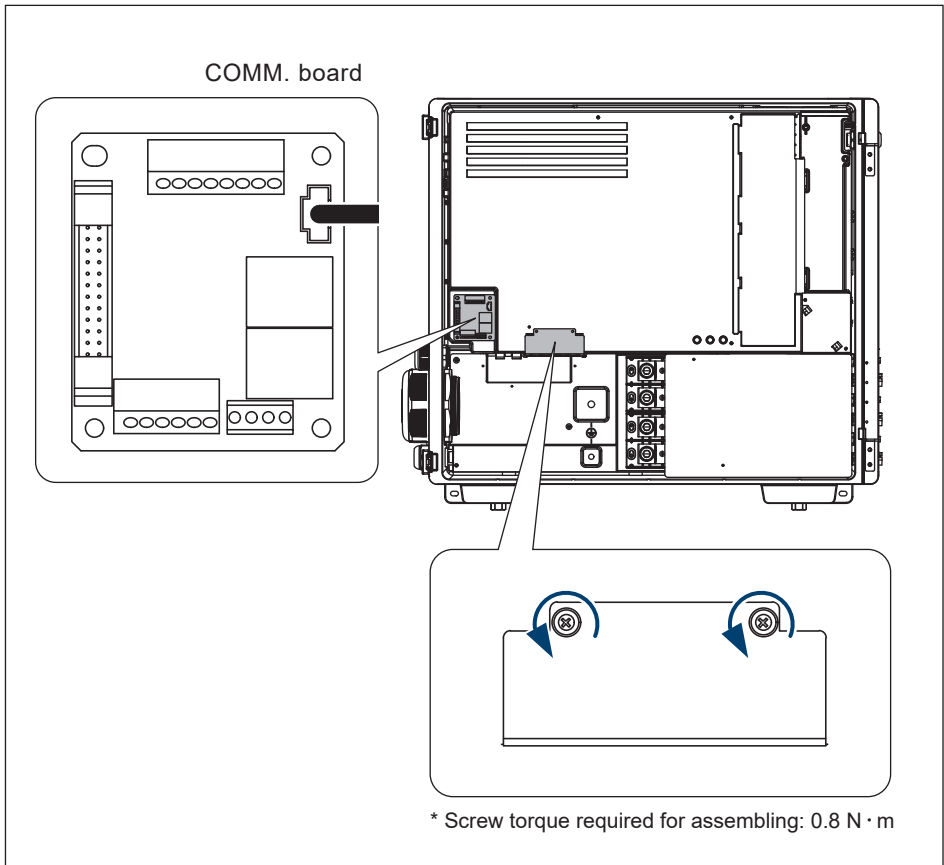

Figure 5-15: Internal fan 2 location & remove the shield cover
- (1) Disconnect the power connector on the COMM. board. **(Figure 5-15)**